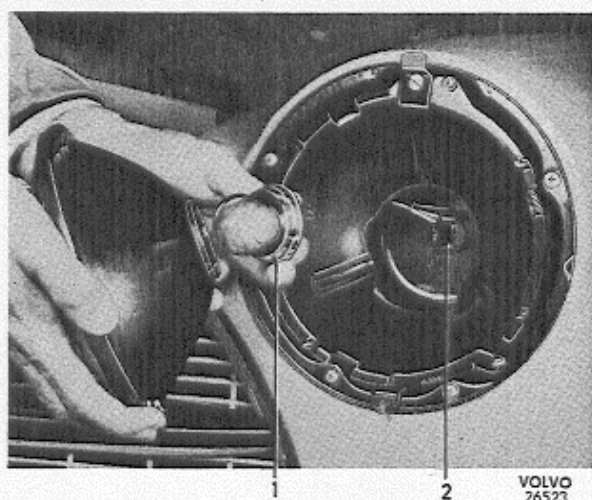

Fig. 70. Fitting the bulb.
3. Fit the new bulb. For asymmetrical headlights, this is done as shown in Fig. 70. For symmetrical inserts, the bulb is placed directly into the insert, after which the springs are hooked on.